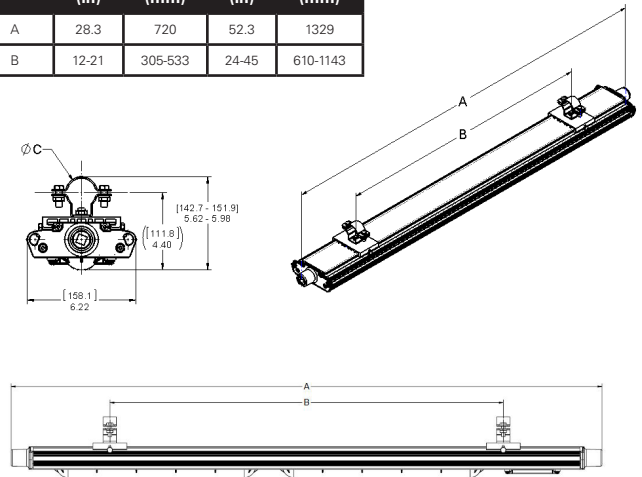
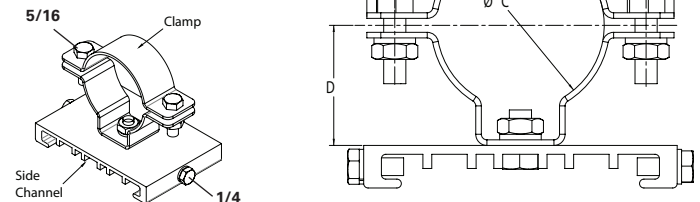

Figure 8. PM KIT - Pole Mount Installation
Figure 9. PM KIT - Pole Mount Details
3. Pole mount brackets may be spaced as required; it is recommended to keep them at least 12" (305mm) apart (see Figure 8).
4. Slide the two (2) pole mount brackets onto the fixture, engaging the flange on the top of the fixture.
5. Tighten the two (2) 1/4" set screws on each slide bracket until they bottom (see Figure 9). Torque to 78 in.-lbs. (8.8 N-m).
6. Remove the two (2) 5/16" screws, lock washers and nuts on each clamp and remove the upper clamp halves.
7. Fixture is now ready for mounting. It is strongly suggested to use two (2) qualified tradespeople to proceed with the final mounting of the fixture. This is recommended to avoid any personal injury or damage to the fixture.
9. Install the two (2) upper clamp halves and the 5/16" screws, lock washers and nuts on each clamp.